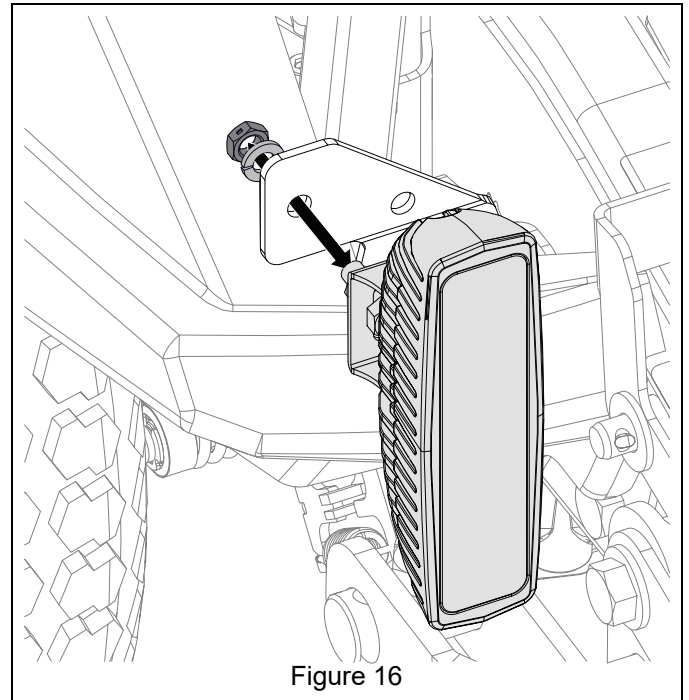

Figure 16
1. Remove and retain hardware retaining headlight and remove headlight. Take care to not damage headlight or wire harness. See Figure 16.